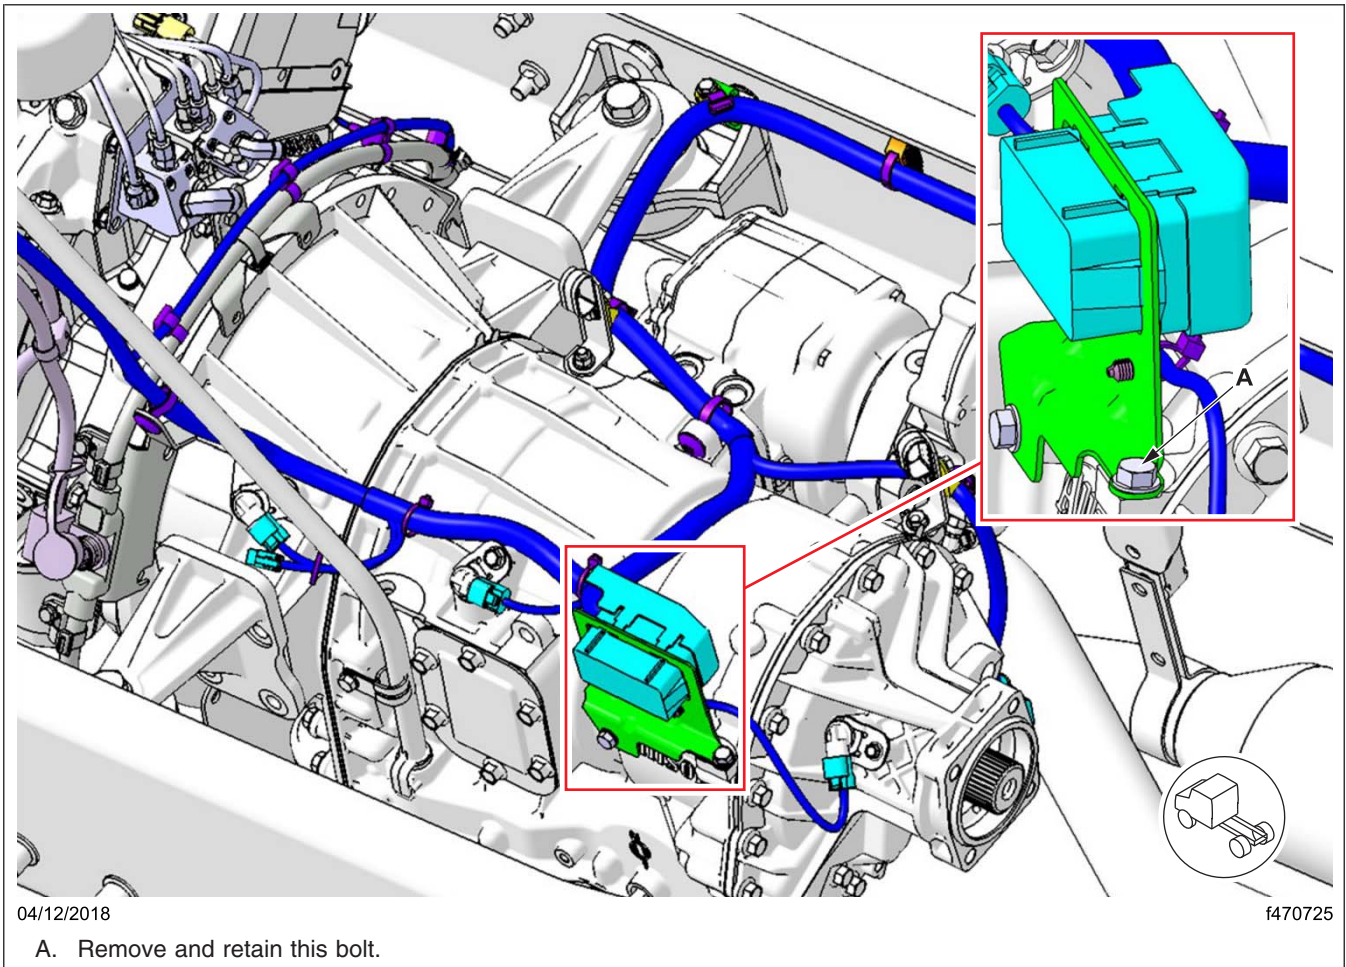

Fig. 3, Removing the Bulkhead Mounting Bolt
4. Remove the rear bolt from the harness bulkhead bracket on the left-rear of the transmission and set the bolt aside. Using the mounting bolt, install the bracket. Using the bolt, nut, and washers, install the hose clamps. See **Fig. 3** and **Fig. 4**.